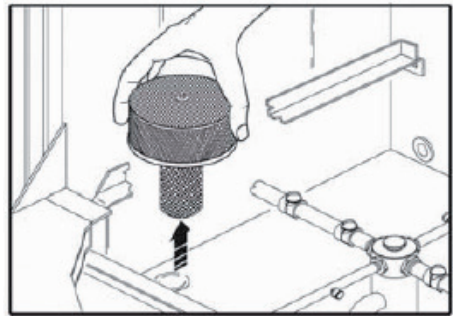

Fig. 17
5. Remove and clean the washing pump filter (fig. 17) and other tank filters if present